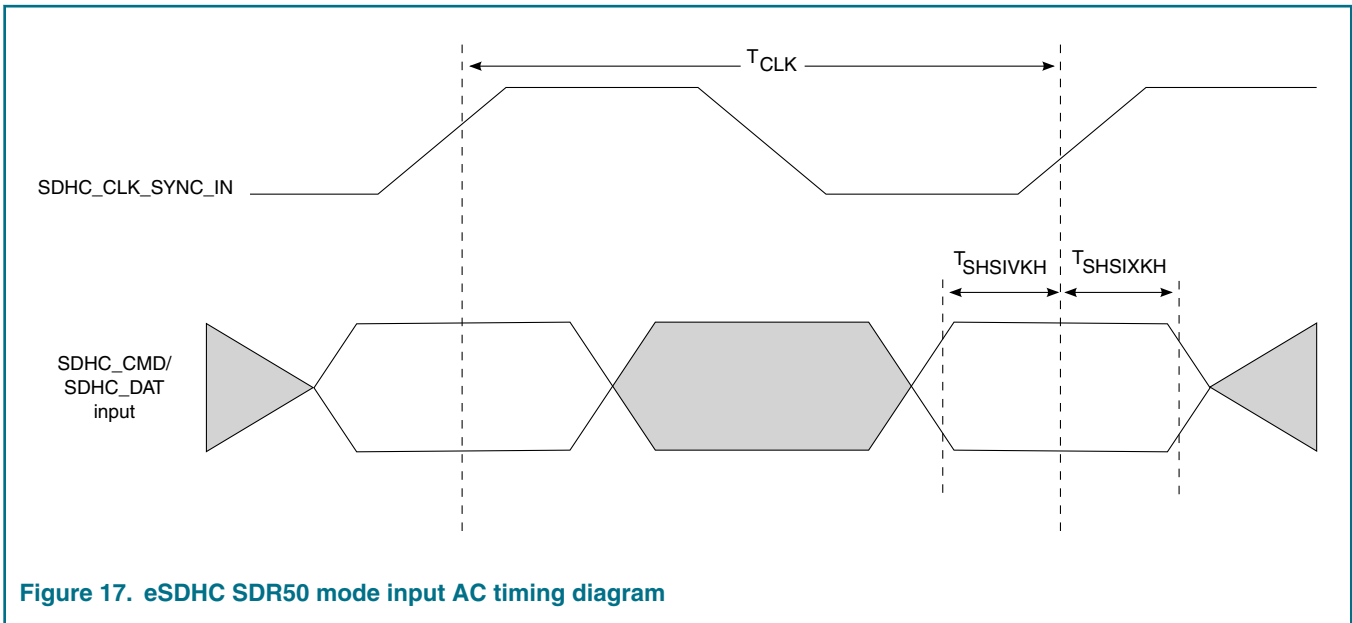
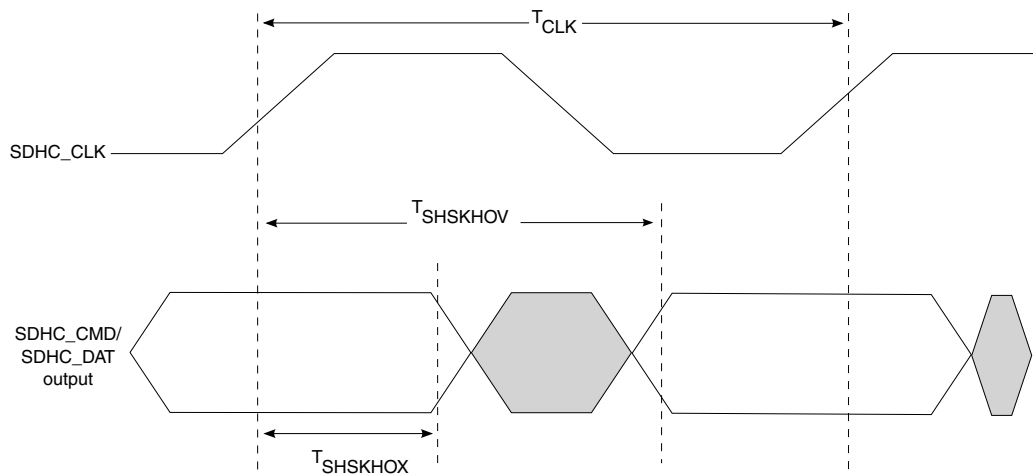

Figure 17. eSDHC SDR50 mode input AC timing diagram
Figure 18. eSDHC SDR50 mode output timing diagram
<p>1. $C_{CARD} \leq 10 \text{ pF}$, (1 card), and $CL = C_{BUS} + C_{HOST} + C_{CARD} \leq 30 \text{ pF}$.</p> <p>2. The symbols used for timing specifications herein follow the pattern of $t_{(\text{first two letters of functional block})(\text{signal})(\text{state})(\text{reference})(\text{state})}$ for inputs and $t_{(\text{first two letters of functional block})(\text{reference})(\text{state})(\text{signal})(\text{state})}$ for outputs. For example, t_{SHKH0X} symbolizes eSDHC highspeed mode device timing (SH) clock reference (K) going to the high (H) state, with respect to the output (O) reaching the invalid state (X) or output hold time. Note that in general, the clock reference symbol is based on five letters representing the clock of a particular functional. For rise and fall times, the latter convention is used with the appropriate letter: R (R for rise) or F (F for fall).</p> <p>3. See Figure 17. on page 89.</p> <p>4. See Figure 18. on page 90.</p> <p>5. The AC timing specifications are based on the recommended operating conditions with $EVDD /OVDD = 1.8V$, see Recommended Operating Conditions</p>